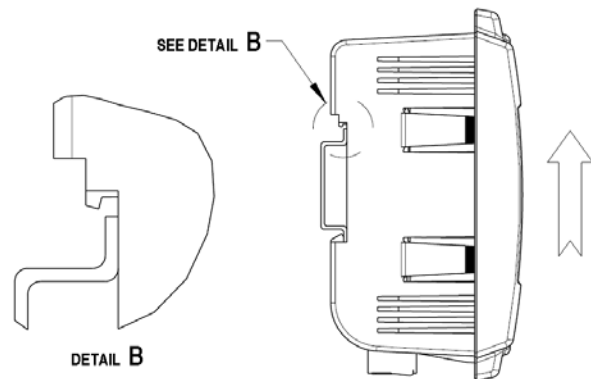

Figure 7: The Remove Sketch Map
2. Push down the controller to make sure the bottom flex connectors of the controller onto the DIN rail. (see Figure 7)